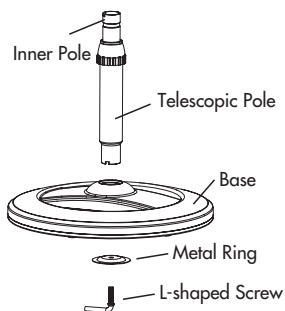

Figure 4.
1. Remove the L-shaped screw and metal ring from the telescopic pole by turning the L-shaped screw counter clockwise. (Figure 4)
2. Insert the telescopic pole into the top of the base. Install the L-shaped screw and metal ring back into the threaded hole at the bottom of the telescopic pole to secure the pole to the base. (Figure 4)